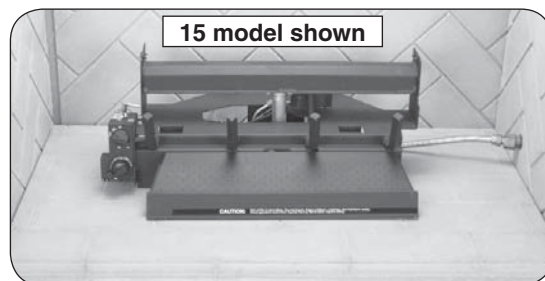

Fig. 20-2 Center burner in fireplace
3. Place the burner system in the fireplace. Center the burner in the fireplace. See Fig. 20-2.